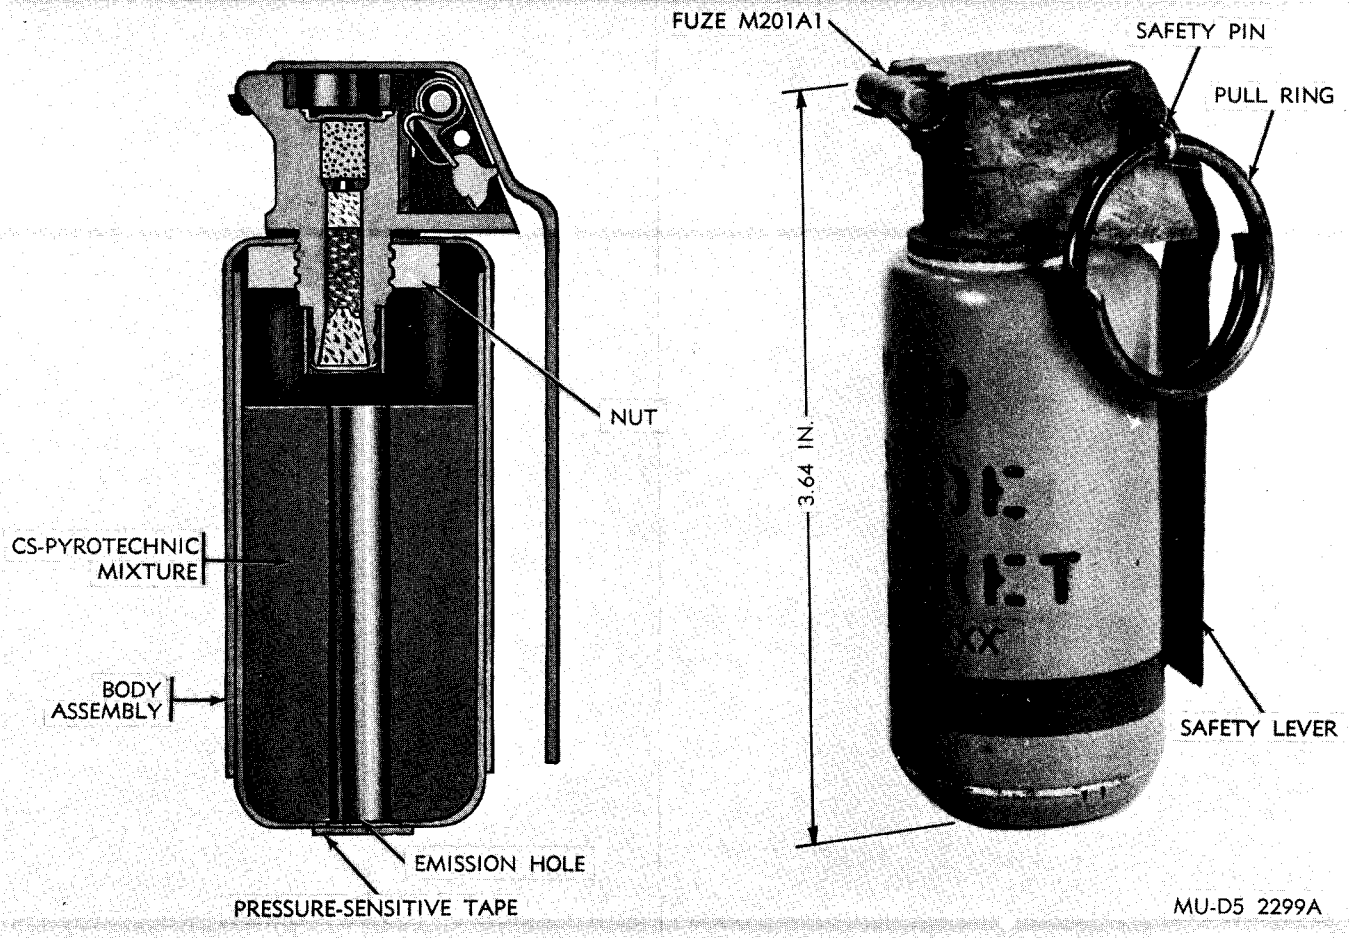

Figure 2-25. CS pocket riot hand grenade XM58.
a. *General.* CS Pocket Riot Hand Grenade XM58 (fig. 2-25) is a burning-type riot control agent grenade and may be used to simulate casualty agents during training. CS has a powerful lachrimal effect and is irritating to the upper respiratory passages, causing coughing, difficulty in breathing and chest tightness. Heavy concentrations will cause nausea and vomiting as well. The onset of incapacitation is 15 to 30 seconds and duration is less than 10 minutes after personnel is removed to fresh air. CS is more persistent and has a more severe reaction than CN.